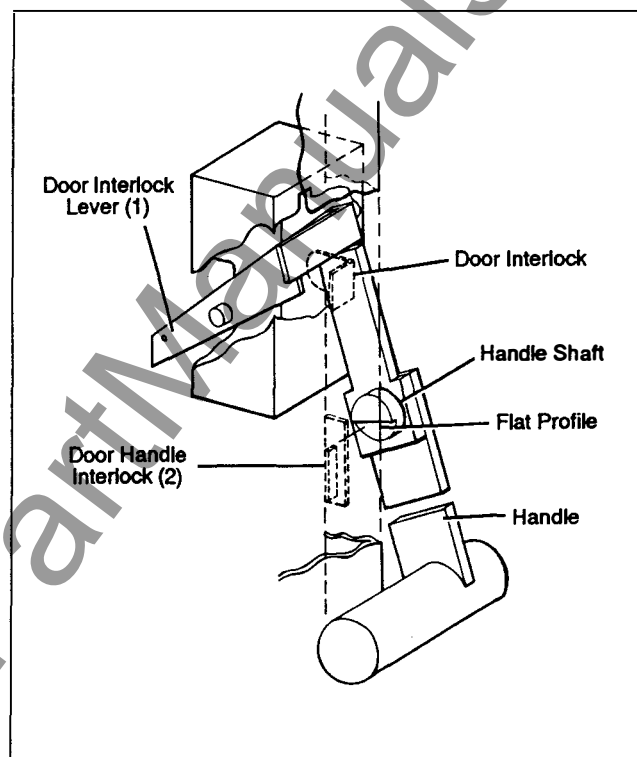

Figure 7. Door-Handle Interlock
The racking handle is interlocked with the door such that the handle cannot be moved to the "ON" position while the door is open. Refer to **Figure 7**.
The door-handle interlock (2) prohibits closing or opening of the medium voltage compartment door except when the handle is in the "OFF" position. The flat profile on the end of the handle shaft will not allow the door-handle interlock to pass in or out unless the handle is in the "OFF" position. Refer to **Figure 7**.